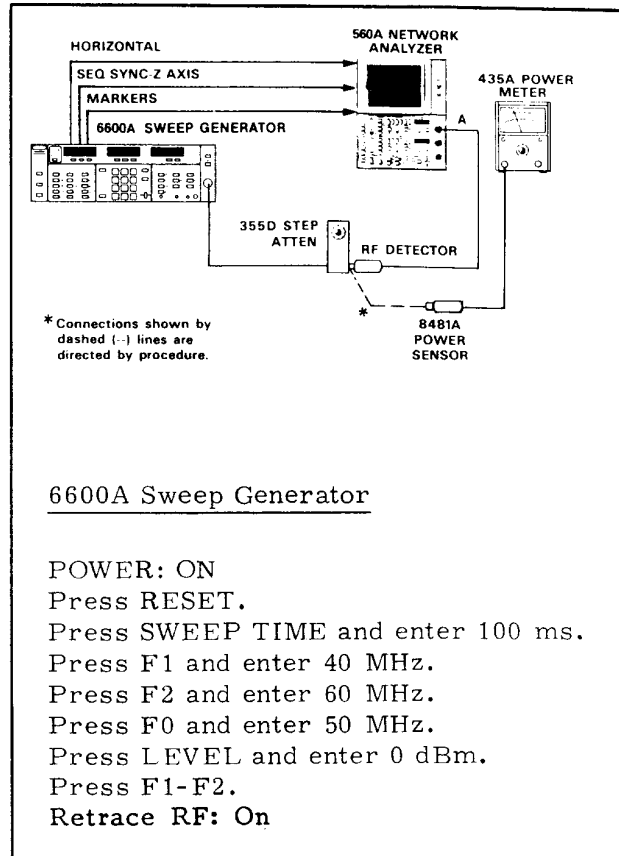

Figure 5-6. Test Setup for Power Accuracy Tests
This paragraph provides instructions for checking and adjusting the Channel A&B and Channel R log amplifier accuracy. There are two accuracy adjustments for each log amplifier channel (A&B and R); one adjusts the log amplifier channel to provide 125mV per dBm of input signal, and the other adjusts the log amplifier output so that 0 volts equals 0 dBm. Both of these adjustments are critical and should not be adjusted unless it is reasonably certain, based on the criteria in paragraph 4-4, that the log amplifier accuracy specifications are not being met. As explained in the NOTE preceding step j in paragraph 4-3, log amplifier accuracy testing is divided into two tests--one test for +10 to -5 dBm and a second test, if necessary, for +16 dBm. Figure 5-6 shows the test setup and provides initial sweep generator control positioning for the +10 to -55 dBm test.
1. Setup the test equipment as shown in Figure 5-6, and connect the 8481A Power Sensor to the output of the step attenuator.